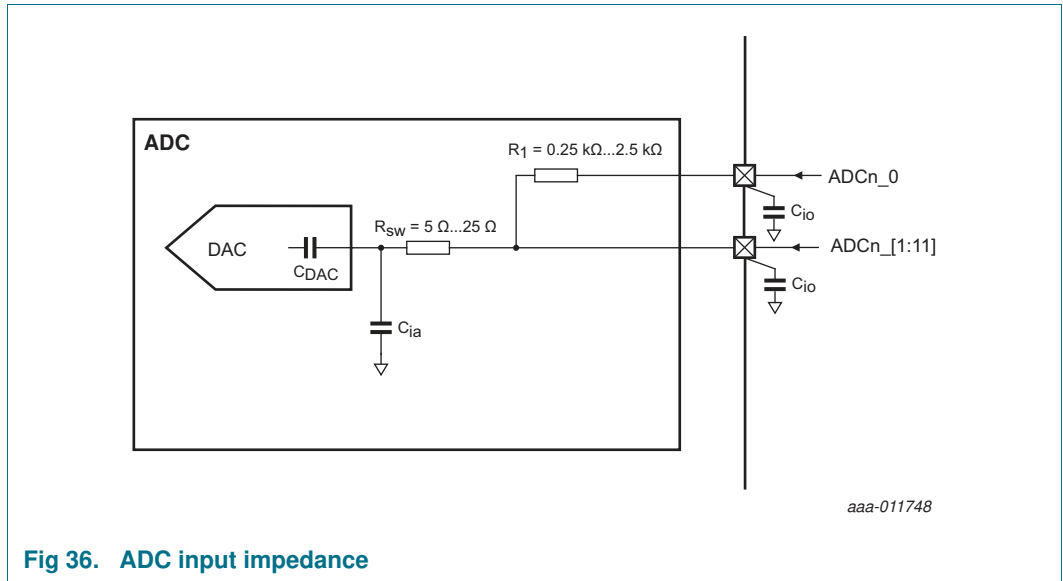

Fig 36. ADC input impedance
- [9] Input resistance Z_i is inversely proportional to the sampling frequency and the total input capacity including C_{ia} : $Z_i \propto 1 / (f_s \times C_i)$. See Figure 36 "ADC input impedance".